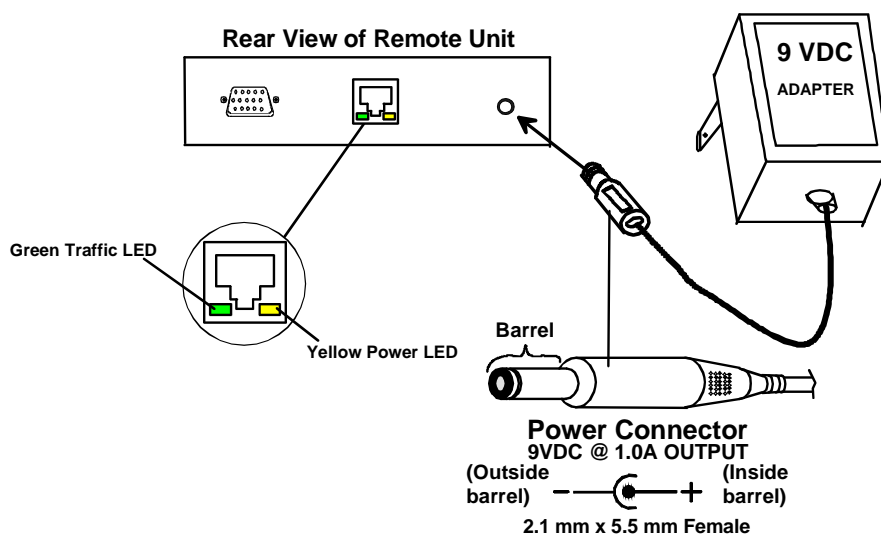

Figure 12- Connect the AC adapter to the Remote Unit
2. Connect each AC adapter power connector to the 9VDC ports on the Remote and Local Units. Plug each AC adapter into a power outlet. The yellow LED on the RJ45 connector of both the Remote and Local Units should illuminate, indicating that a proper power connection has been made to them. (See Fig. 12.)
**Note:** The green LED on each RJ45 connector will illuminate anytime data traffic is passing between the Local and Remote Units, indicating proper CAT5 cable connection and communication. (See Fig. 12)